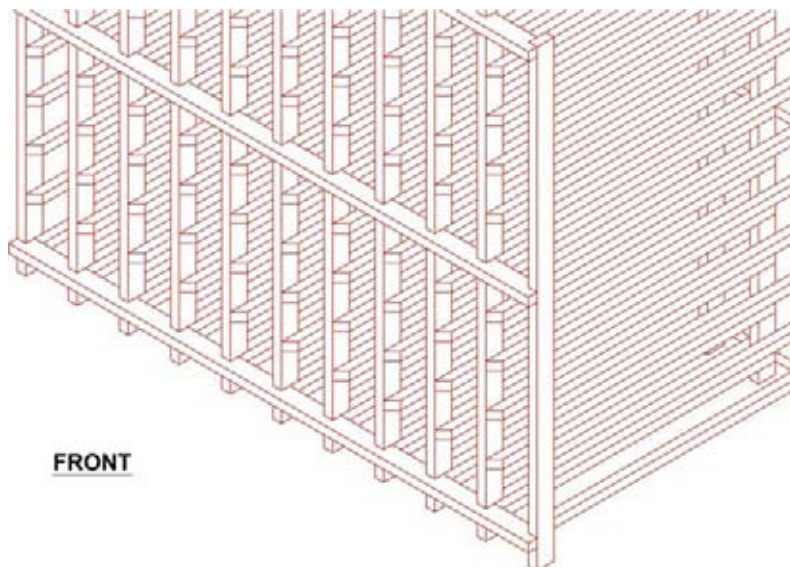

Figure 3
8. At this point all (11) ladders should be attached to the spacer bar (**Figure 3**). Set another spacer bar over the next spacer slat location tapping gently with a hammer to ensure a proper fit on all uprights.